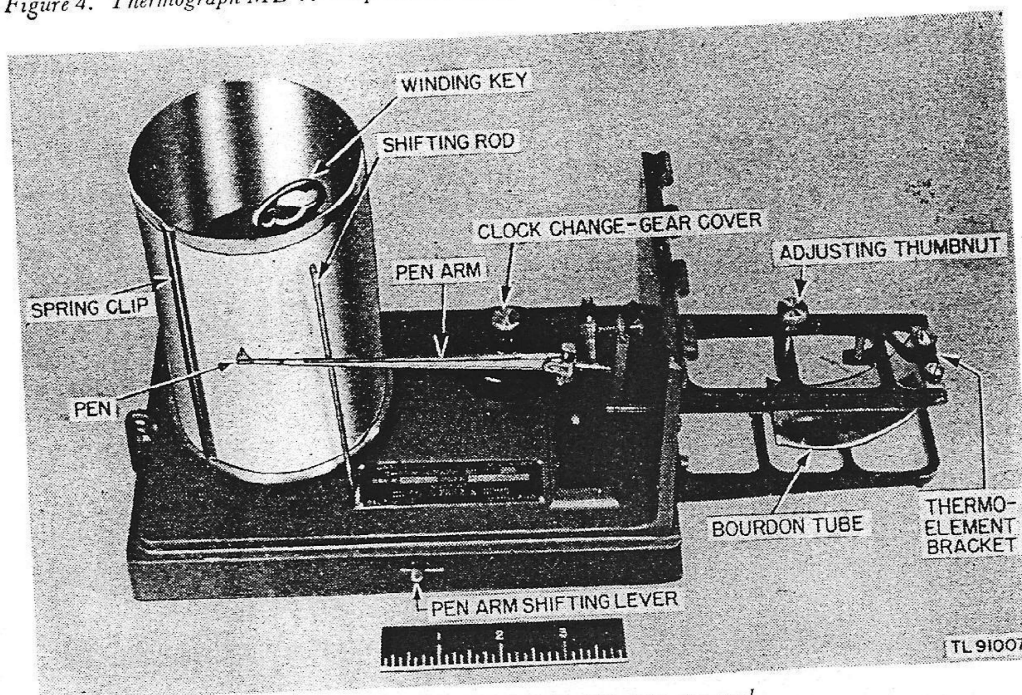

Figure 5. Thermograph ML-77, case removed.
b. Temperature element. (1) *Thermograph ML-77* (fig. 5). The temperature element of Thermograph ML-77 is a liquid-in-metal thermometer
g. **Shifting rod.** The shifting rod, controlled by the pen-arm shifting lever on the frame base of the instrument (fig. 5), is a vertical rod which passes through the platform of the instrument and stands beside the cylinder.
b. Turn the temperature adjusting thumbnut (fig. 5) until the reading of Thermograph ML-77 or of Thermograph ML-277 is adjusted to the reading of the standard thermometer (par. 17). Turning the adjusting thumbnut clockwise raises the pen; turning the adjusting thumbnut counterclockwise lowers the pen. Make this adjustment in a location where there is a good circulation of air around the temperature element and standard thermometer. *Never* use the link and lever assembly to adjust the pen to correct temperature; such procedure changes the calibration of the thermograph. Adjust the reading of the thermograph to the reading of the thermometer whenever charts are changed and when the thermograph develops a temperature error of 5° or more.
17. ADJUSTING THUMBNUIT. The adjusting thumbnut sets the pen on the chart to correspond to the air temperature. This thumbnut acts against a coil spring and moves the bracket attached to the temperature element. When the bracket is moved, the tube rotates about the fixed end and changes the position of the pen on the record chart (figs. 5 and 6).